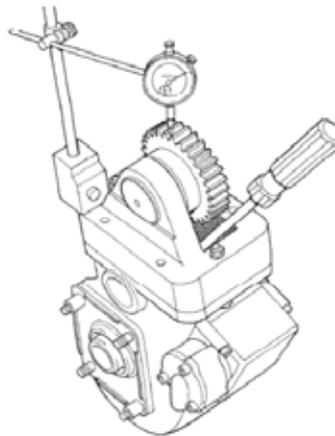

Figure 20 Checking Adapter to PTO Backlash
- j. Install a dial indicator on the adapter housing with the dial indicator plunger resting squarely on the adapter gear (Figure 20).